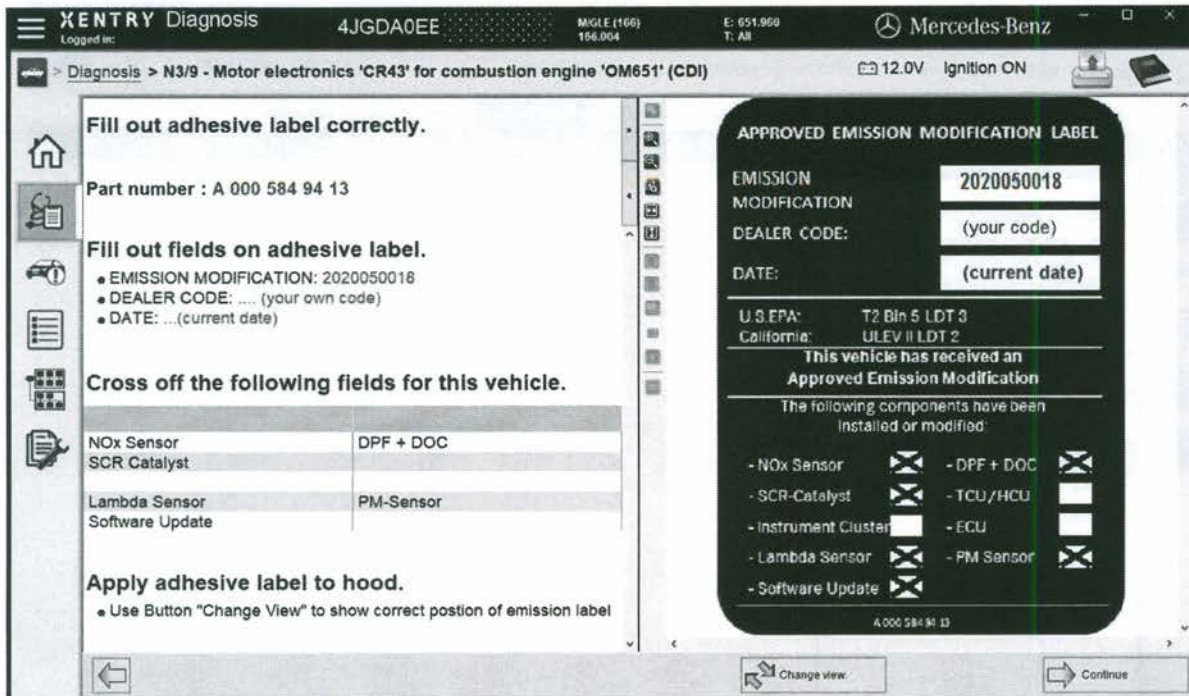

Figure 11
**i** The fields on the adhesive label must be filled out correctly. Please use black permanent marker. Refer to (**Figure 11**) within the Xentry procedure